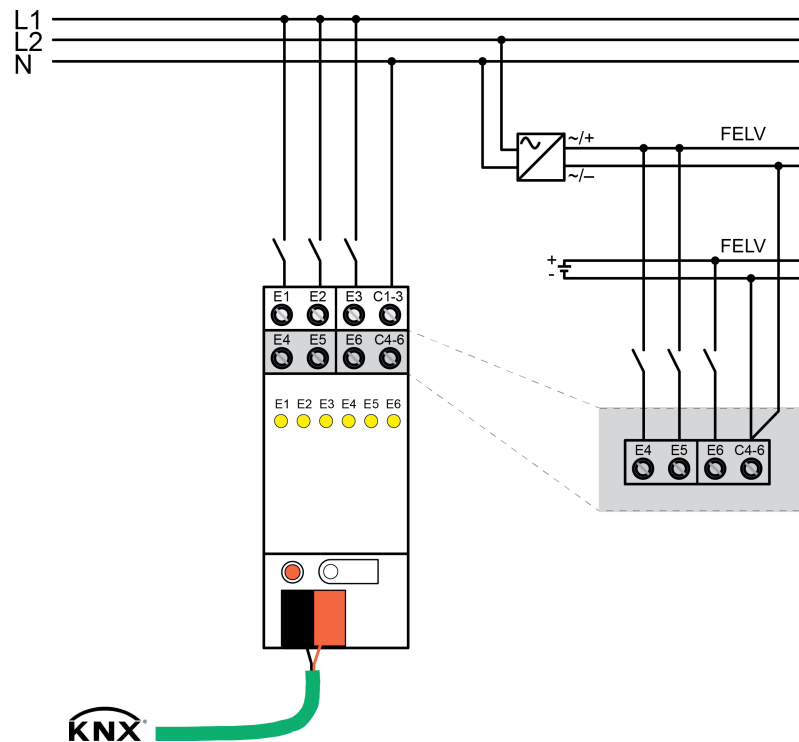

Figure 4: Joint connection of mains and low-voltage circuits
- Connect circuits as shown in the connection example (Figure 4)Connecting .